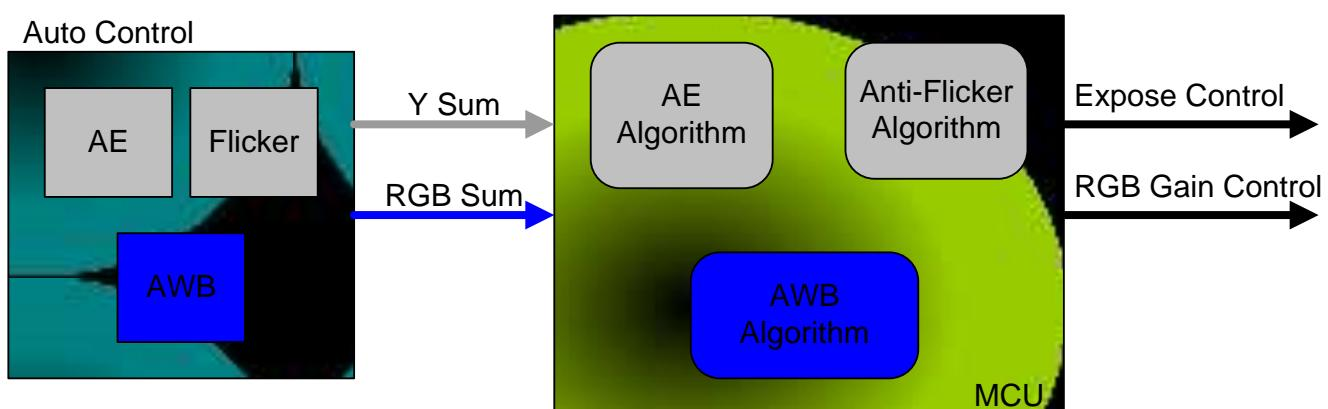

Figure 15-1 Auto Control Function
CP7208 has auto control functions such as AE, Anti-Flicker, and AWB. These functions are not all processed in the ISP block, but transfers the information to the MCU that can operate the auto control algorithm. As shown in Figure 15-1, the brightness(Y) data for Anti-Flicker and RGB data for AWB are transferred to the MCU and depending on the calculation results of each algorithm, expose time, and RGB gain are performed.